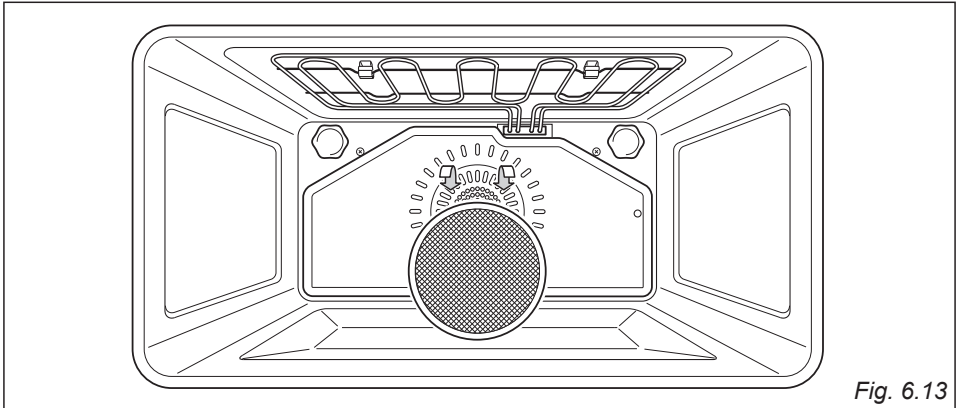

Fig. 6.13
- A special screen can be fitted at the back of the oven to catch grease particles, mainly when meat is being roasted (fig. 6.13).
- Slide in the grease filter on the back of the oven as in fig. 6.13.